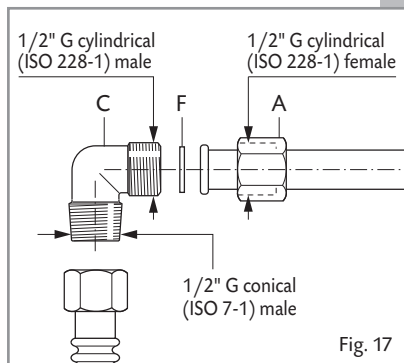
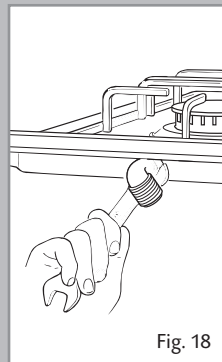

Fig. 17
Fig. 18
The fitting (fig. 17) is made up of:
- The gas inlet union can be turned in the direction required after the elbow fitting "C" and nut "A" connection (figure 17) has been slackened (fig. 18).
- The gasket "F" (fig. 17) guarantees the seal of the gas connection. It is recommended that it be replaced whenever it shows even the slightest deformation or imperfection.